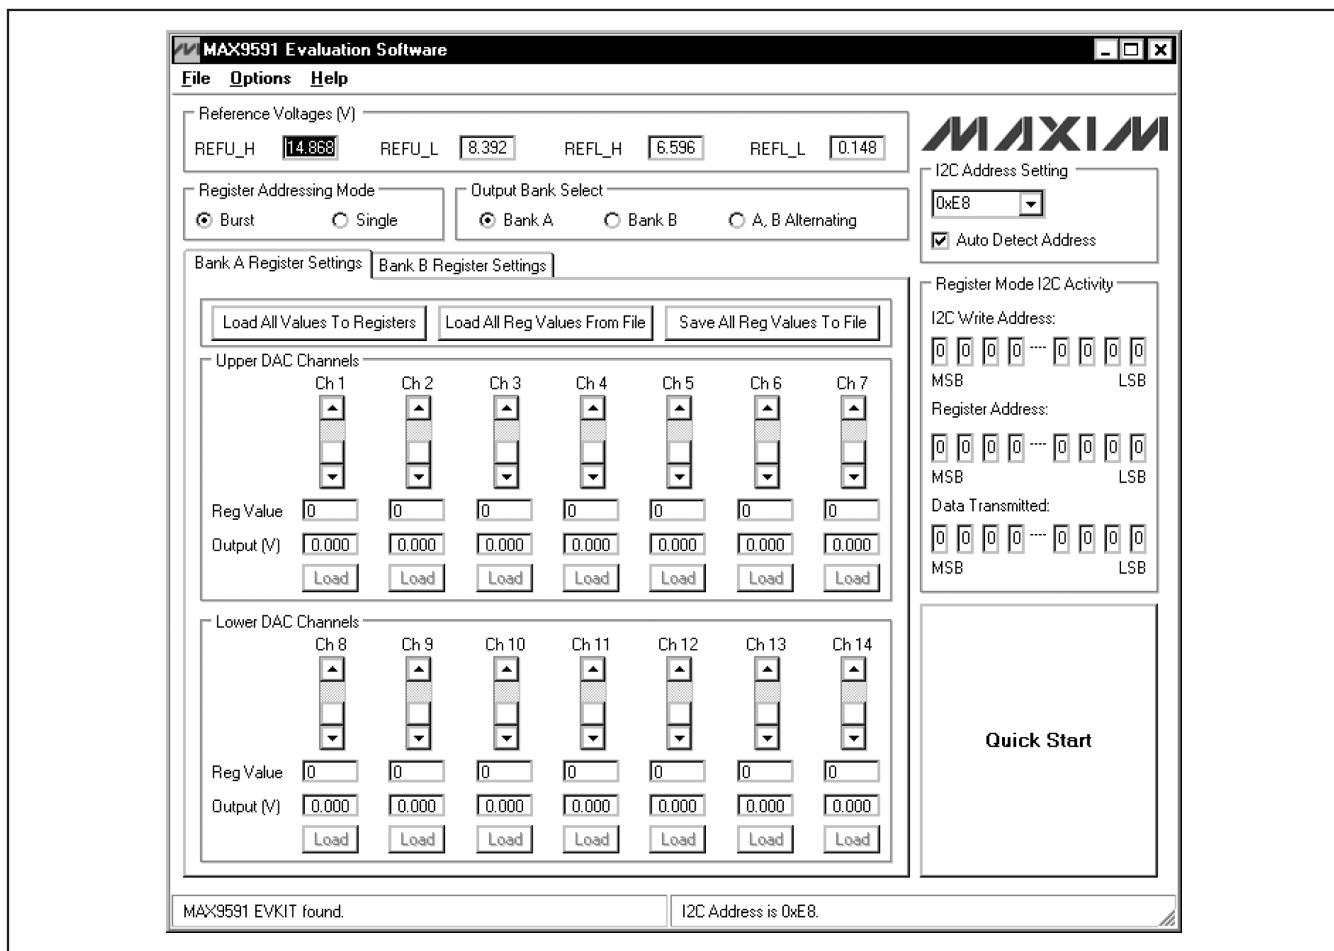

Figure 1. MAX9591 Evaluation Software Main Window
- 13) Start the MAX9591 EV kit software by opening its icon in the **Start | Programs** menu. The EV kit software main window appears, as shown in Figure 1.
- 14) Use the DVM voltage probe to measure the reference input voltages on the REFU\_H, REFU\_L, REFL\_H and REFL\_L PCB pads, and type those values into the corresponding edit boxes of the **Reference Voltages (V)** group box.
- 16) Use the DVM voltage probe to verify that the DAC output voltages are close to the voltages shown in the **Output (V)** edit boxes for the respective channel.
The MAX9591 evaluation kit (EV kit) software main window is shown in Figure 1. The GUI software automatically detects the MAX9591 device address and displays it in the **I2C Address Setting** drop-down list and in the software status bar. The DAC output voltages in the **Upper DAC Channels/Lower DAC Channels** group boxes are calculated using the upper and lower reference input voltages on PCB pads REFU\_H, REFU\_L, REFL\_H, and REFL\_L. The reference input voltages MUST be measured at the appropriate PCB pads and the values entered in the respective **Reference Voltages (V)** edit boxes for the DAC output calculations to be correct.